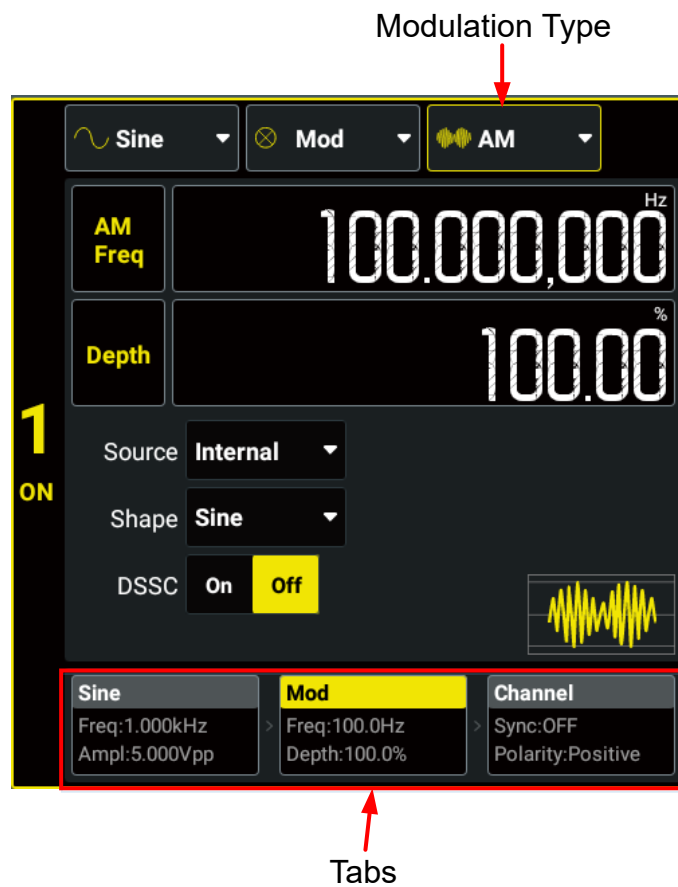

Figure 6.1 Modulation Setting Interface
Interface" (*Figure 6.1*), click or tap the "Modulation Type" drop-down button to select "AM" and set its parameters.
6.2 Frequency Modulation (FM)
In Frequency Modulation (FM), a modulated waveform consists of a carrier waveform and a modulating waveform. The frequency of the carrier waveform is varied by the instantaneous voltage of the modulating waveform. In the "Modulation Setting Interface" (*Figure 6.1*), click or tap the "Modulation Type" drop-down button to select "FM" and set its parameters.
6.3 Phase Modulation (PM)
In Phase Modulation (PM), a modulated waveform consists of a carrier waveform and a modulating waveform. The phase of the carrier waveform is varied by the instantaneous voltage of the modulating waveform. In the "Modulation Setting Interface" (*Figure 6.1*), click or tap the "Modulation Type" drop-down button to select "PM" and set its parameters.
With Amplitude Shift Keying (ASK), you can configure the instrument to "shift" its output amplitude between two preset values (called the "carrier amplitude" and the "modulation amplitude"). In the "Modulation Setting Interface" (Figure 6.1), click or tap the "Modulation Type" drop-down button to select "ASK" and set its parameters.